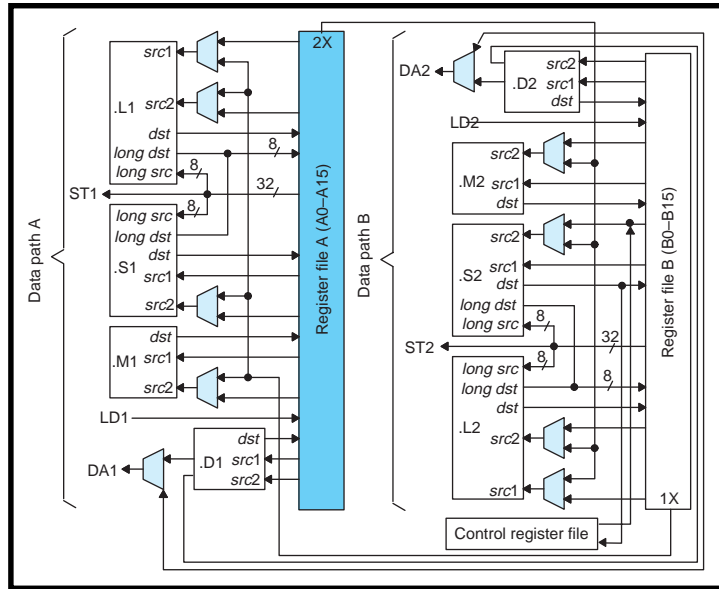

Figure 1—In 1997, the TI 'C6x eight-instruction/clock VLIW set the standard for performance-at-any-price DSPs. Now, you can get one for \$20.
The LCD is an 8540M3-RPH-0.25, a standard product of Excel Technologies. Refer again to Figure 1 to see how each character is divided into six three-segment connections. Connections to these frontplane segments
**Listing 1**—*Very little BASIC code was needed in order to see to some results from the circuit shown in Figure 1, thanks to the PicBasic compiler.*
These chips contain the same big V8 motor (i.e., execute up to eight instructions at once) as the upscale models (see Figure 1). But instead of the multimegabits of on-chip SRAM that the luxu-models include, the 'C6x11s rely on external memory.